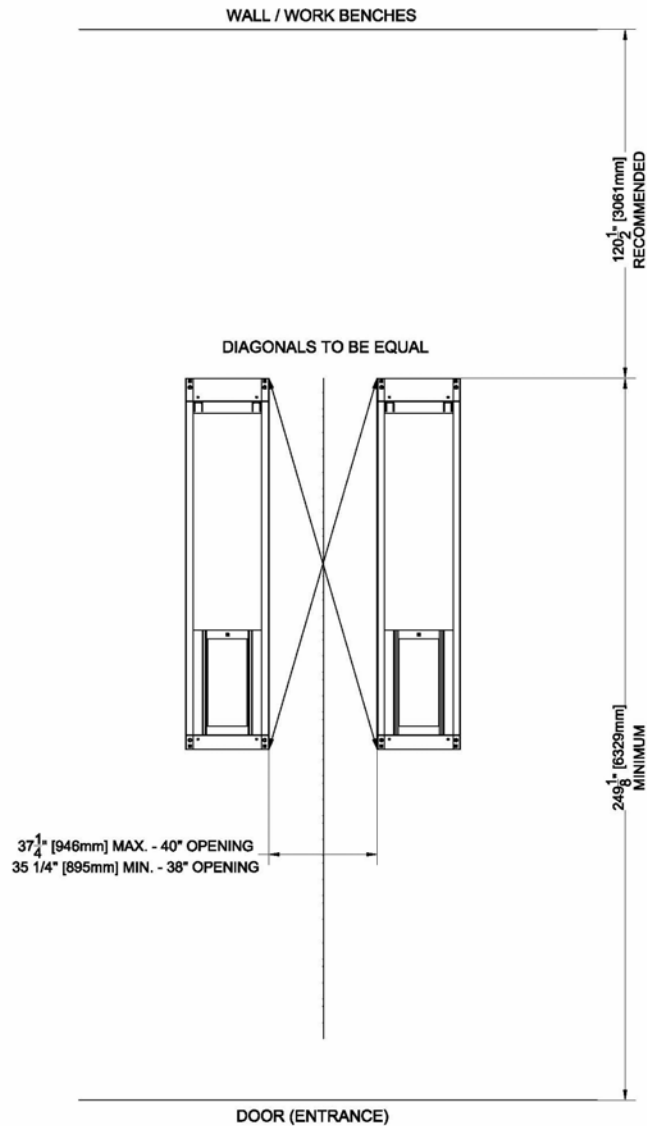
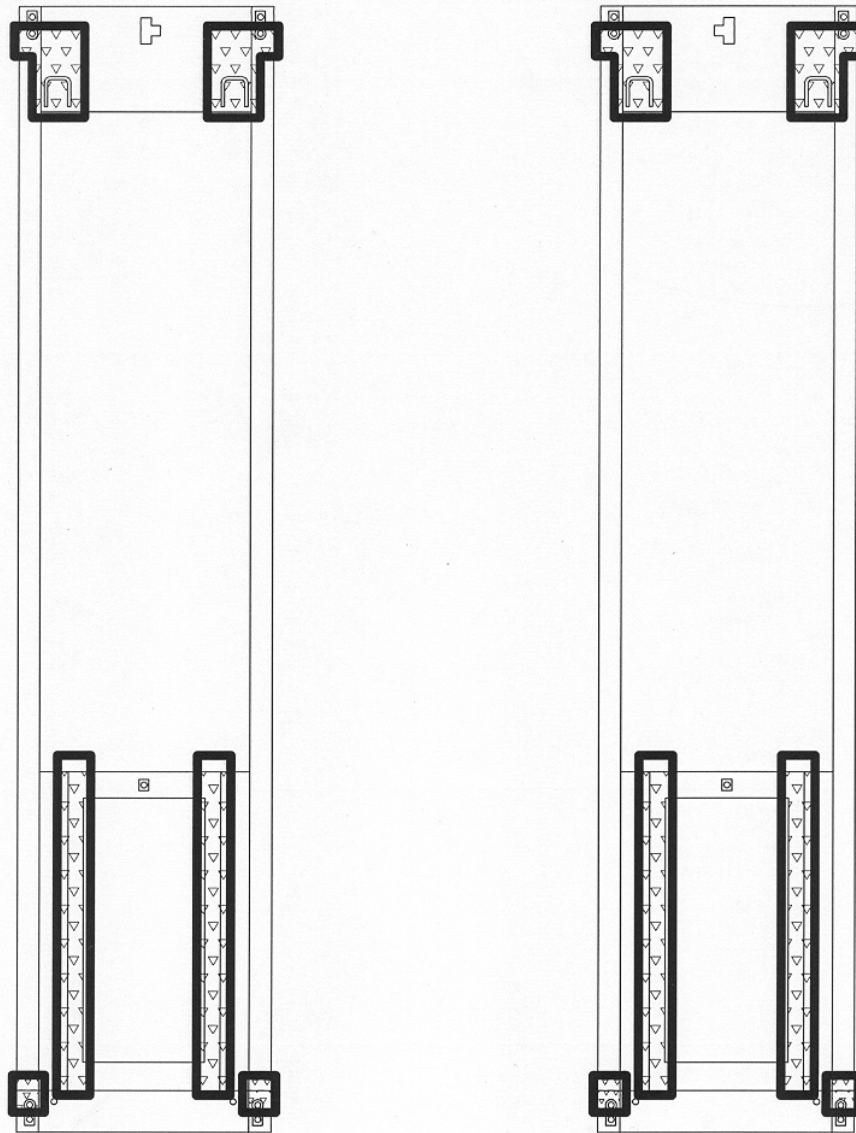

Figure 4 – Baseframe Locations
Figure 10 - Shimming
3. Measure and snap two (2) parallel chalk lines on either side the centerline for the inside edges of the baseframes. Refer to **Figure 4** for the dimensions necessary to provide the desired width between the two runways. A distance of 35 ¼" (895mm) will provide the standard width of 38" between the inside of the runways.
1. Press the up button and raise the lift to the fully extended operating position. Check the location of the baseframes compared to **Figure 4**, and make minor adjustments as required.
2. Level the baseframes using the 5/8" leveling bolts provided at each of the four (4) corners. A minimum gap of 1/2" under the baseframe is needed in all places for grouting.
3. Use shims provided to support under glide block area of baseframe and under front hinges. See **Figure 10**.